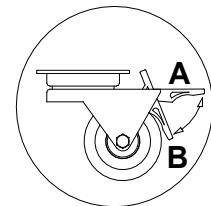

Fig.6 Wheel system, moving system
- Place the display cabinet on an even basis, which is hard enough, and then level it with feet. In case of moving bain-marie devices it is necessary to block the wheels in order to immobilise the bain-marie device during its exploitation. Fig.6 (p.10).